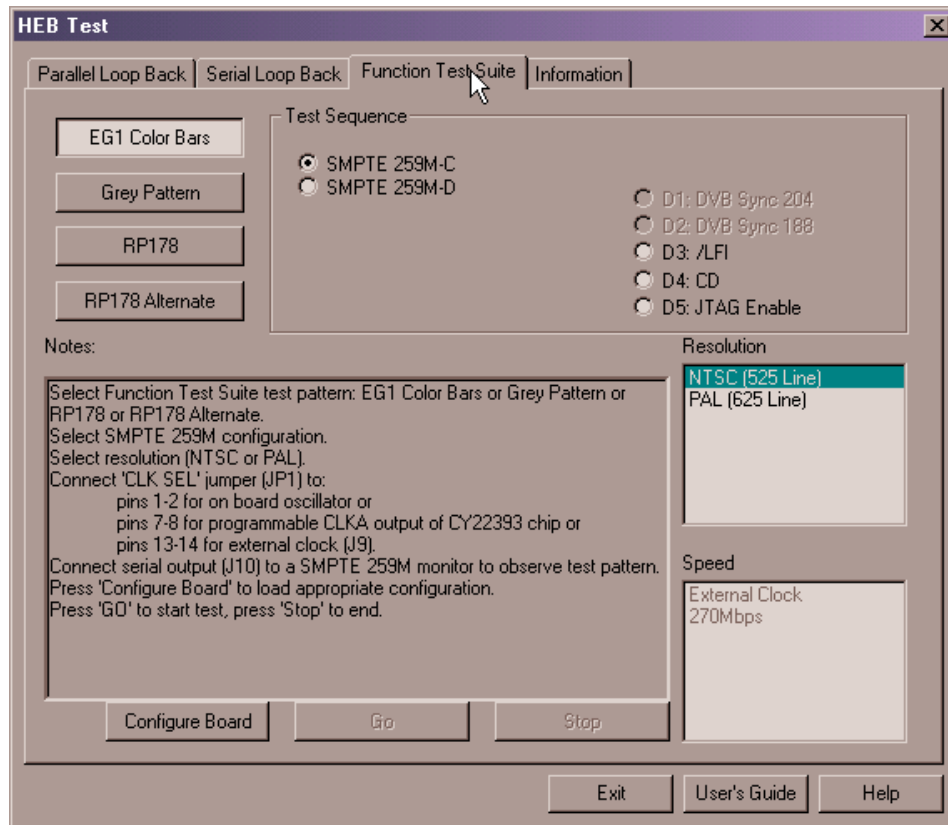

Figure 5-10. Functional Test Suite Test Window
The Delta39K CPLD is programmed through the USB Micro-controller with the Functional Test Suite. Different data patterns, depending on which test is selected, are generated by the state machines in the CPLD. The pattern generated is then SMPTE scrambled in the CPLD, serialized by the HOTLink II transmitter, converted back to analog form by the D/A converter, and displayed on the monitor. The GUI test window for this test is shown in *Figure 5-10*.
- Click on the “Function Test Suite” tab on the GUI test window. *Figure 5-10* shows the “Function Test Suite” test tab selected and the EG1 Color Bars button pressed. Please note that for this test, the board need only be configured once at the beginning. To change the pattern